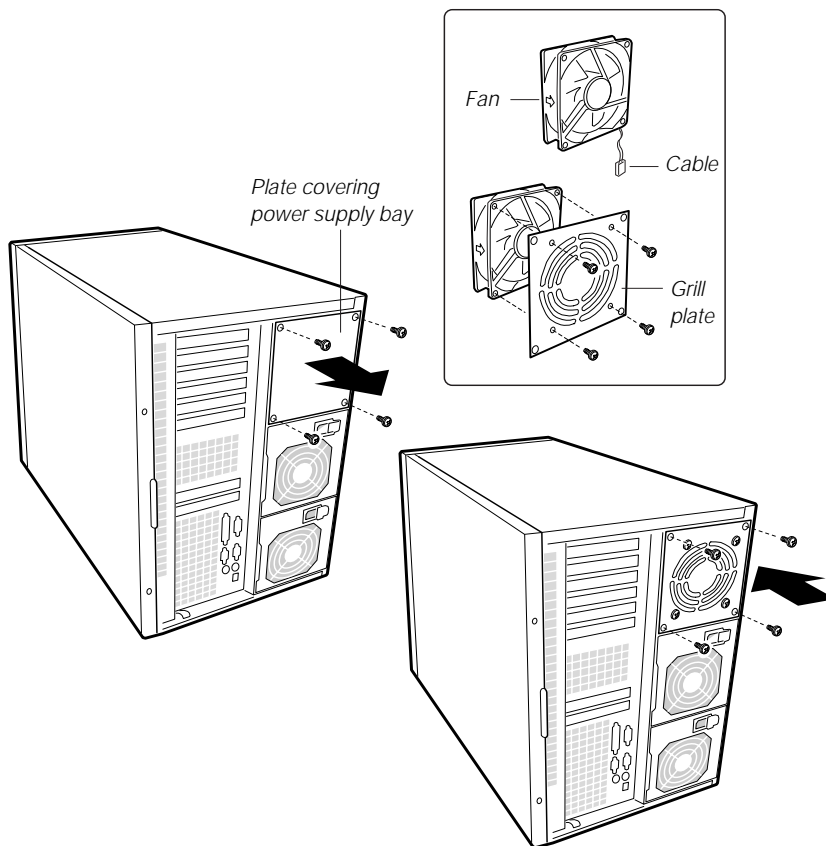

Figure 23: Installing a Fan in the Power Supply Bay
2. Remove the plate (Figure 23) that covers the power supply bay closest to the PCI slots. It is the uppermost bay when the server is standing upright in pedestal mode.
3. Using four screws, attach the fan to the grill plate (Figure 23) so that the fan label faces the plate.
4. Insert the fan/grill plate assembly into the power supply bay so that the cable points downward (Figure 23) from the fan toward the other two power supplies, and so the fan's label faces out the back of the chassis. This alignment is important to ensure correct airflow direction.
5. Using four screws, attach the fan/grill plate assembly to the chassis (Figure 23).